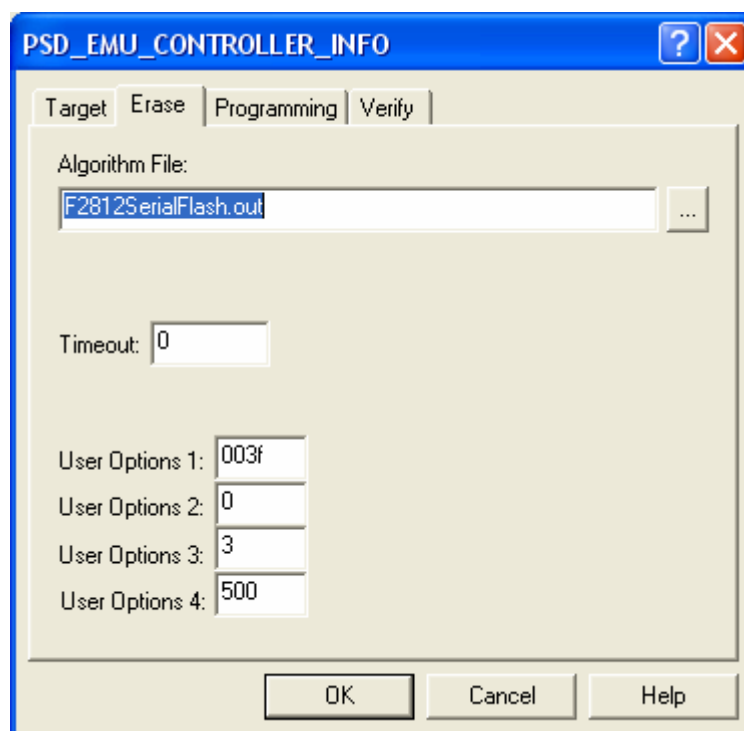

Figure 4: PSD_EMU_CONTROLLER_INFO Erase Tab
7. In the PSD_EMU_CONTROLLER_INFO Erase tab shown in *Figure 4*
- 7.1. Please make sure that the screen setup for the Erase tab is as shown in *Figure 4*.